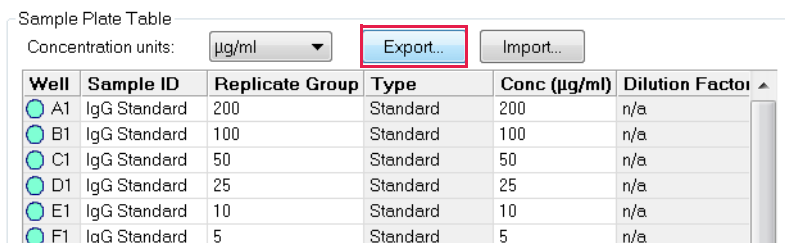

Figure 5-21: Export Button in Sample Plate Table
1. In the **Sample Plate Table** (see Figure 5-21), click **Export**.